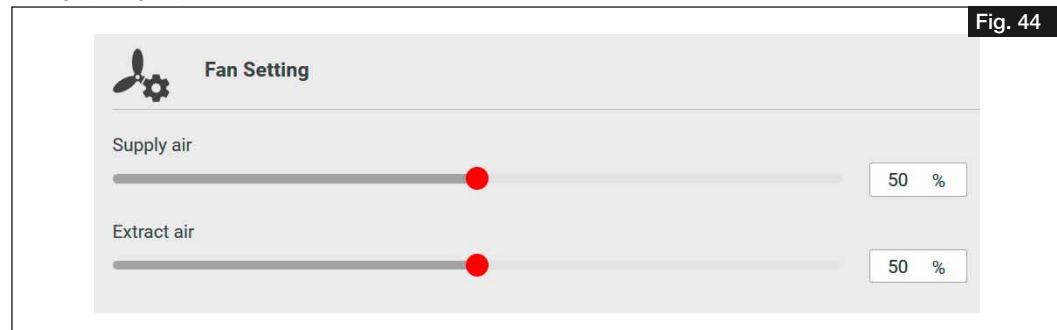

Fig. 44
5. Enter the fan powers for supply and extract air according to the determined values for nominal ventilation under “Fan setting” (cf. Fig. 44).